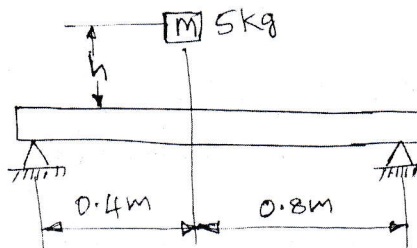

Fig.Q3(b)
b. A 5kg block is dropped from a height of 200mm on to a beam as shown in Fig.Q3(b). The material has an allowable stress of 50MPa. Determine the dimensions of the rectangular cross section whose depth is 1.5 times the width. Take $E = 70 \text{ GPa}$.